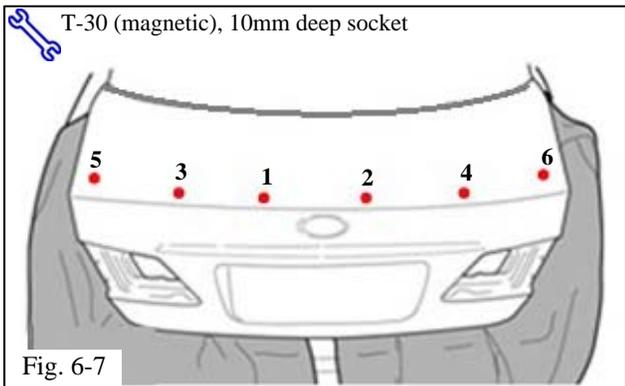

Fig. 6-7
- (h) Open the trunk lid and tighten all six fasteners to 4 N·m (35 in·lbf). The fasteners should be tightened from the center outward, beginning with the two center 10mm hex head M6 nuts (1 and 2), followed by the two middle M6 T-30 Torx bolts (3 and 4), and then followed by the two outer M6 T-30 Torx bolts (5 and 6) (Fig. 6-7).
- (i) Re-torque all 6 fasteners using the same sequence as Step 6(h) above. Tighten from the center outward beginning with the two center 10mm hex head M6 nuts (1 and 2), followed by the two middle M6 T-30 Torx bolts (3 and 4), and then followed by the two outer M6 T-30 Torx bolts (5 and 6) (Fig. 6-7).